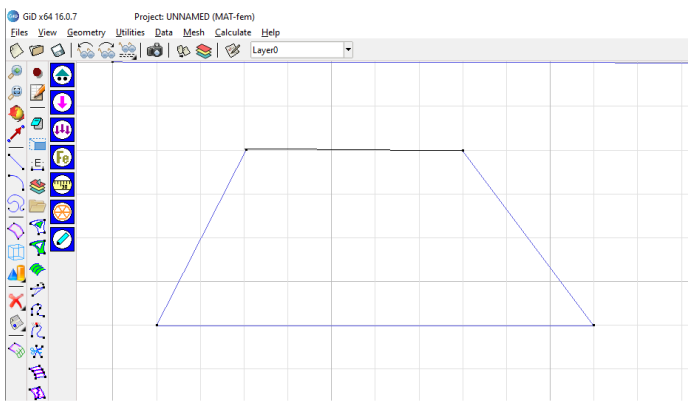
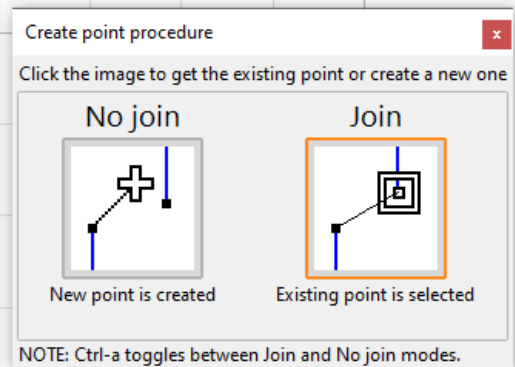

Fig. 17 - Draw geometry.
Fig. 18 - Join last and first point.
Figs. 17 to 28 show the steps to generate a structured mesh with 4 elements across the horizontal lines and 8 elements across the vertical lines of a trapezoidal geometry.
1. Use the **Create line**  tool to draw a trapezoidal shape like shown in Fig. 17. When clicking the first point to create the last edge the **Create point procedure** window should appear (Fig. 18); click on **Join** to make sure the geometry will be closed. Press **Esc** to exit the line tool.